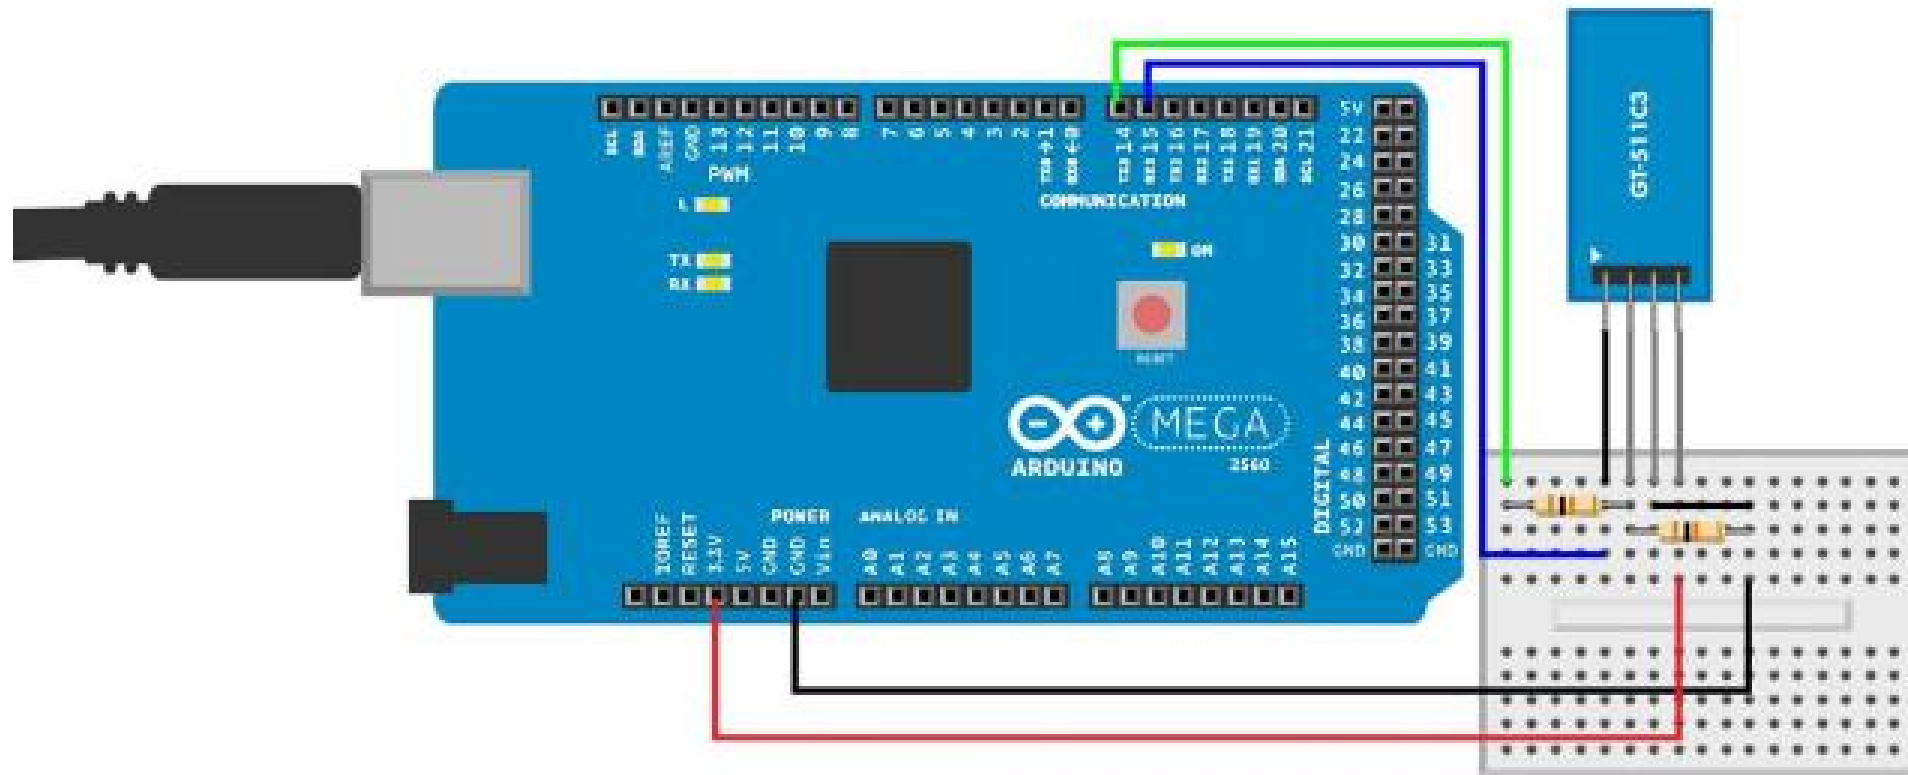

Figure 9-6. Connections for the fingerprint scanner with Arduino
- Figure 9-6 shows the connection diagram for Arduino. Wire it up as shown, and then run the sketch shown in Example 9-3.